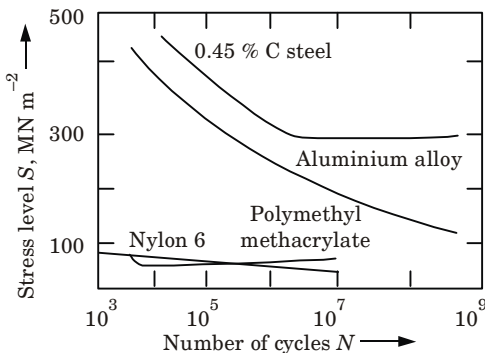

Fig. 2.11.2. The S-N curves for different materials.
3. Typical S-N curves obtained by means of the rotating beam machine are shown in the (Fig. 2.11.2).
4. (Fig. 2.11.2) shows the number of cycles of stress which a metal can endure before failure increases with decreasing stress.